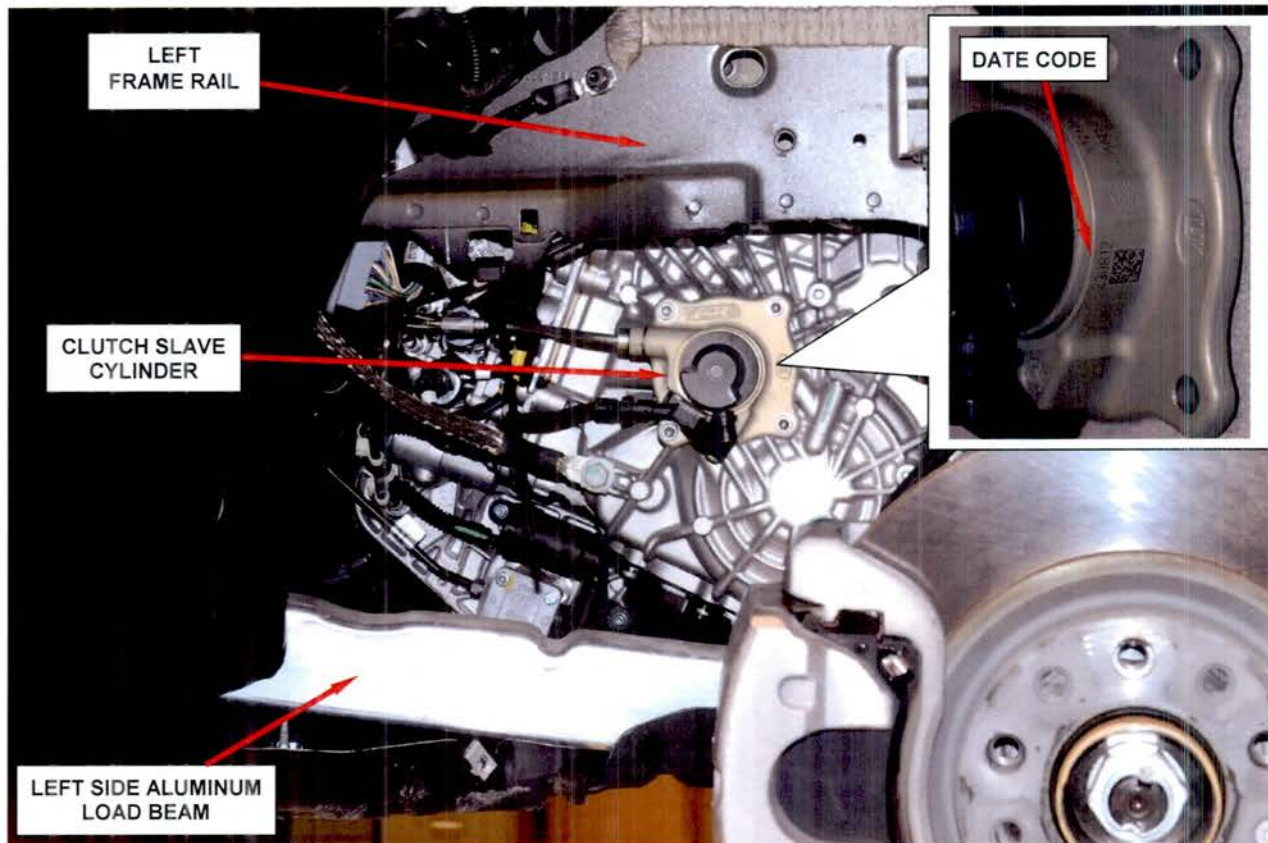

Figure 1 – Slave Cylinder Date Code Location
3. Pull the plastic fender shield back to locate the transaxle clutch slave cylinder on the far left end of the transaxle case (Figure 1). Inspect the six digit build date code on the transaxle clutch slave cylinder housing (Figure 1).